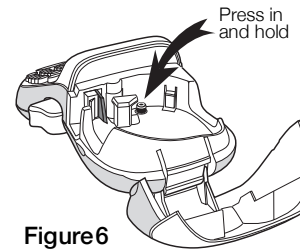

Figure6
- 2 Place the tip of a ball-point pen or pencil on the black post as shown in Figure 6, and press the post down.
- 2 Gently wipe the padded side of the cleaning tool across the print head. See Figure 6.